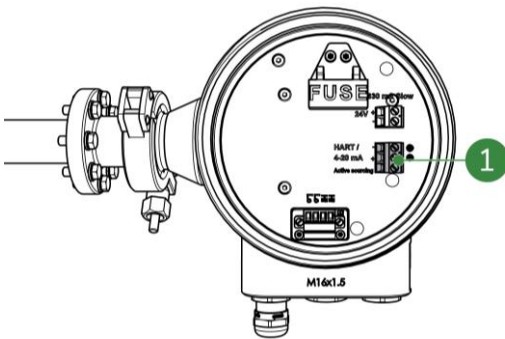

Figure 5-21: HART connection
5. Connect the 4-20 mA cable (HART) to the HART connection (Figure 5-21, pos. 1) using the screw connectors.